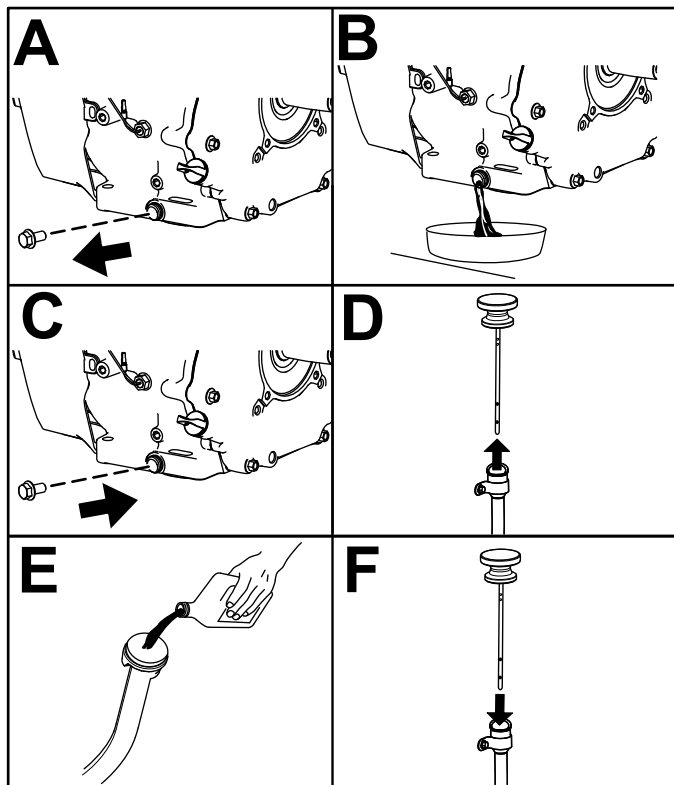

Figure 41
6. Change the engine oil as shown in Figure 41.